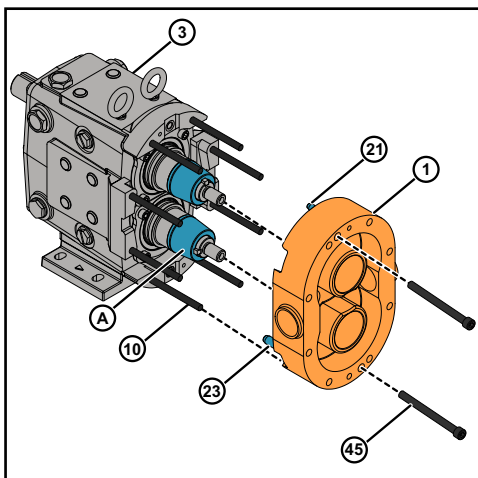

Figure 120 - Install pump body
1. Install the installation guide (A) on both shafts to avoid damaging the lip seals as the pump body is drawn over the shafts. Ensure the front face of installation guide is attached to the back face of sleeve, as shown in Figure 120. See the installation guide part numbers Table on page 139.
2. Match the large and small dowel pin (21 & 23) sizes on the pump body (1) with the dowel pin holes in the pump gear case (3).
3. Install the pump body (1) to the gear case assembly (3), aligning the pump body with the body studs (10) and gradually tighten the two cap screw(45).